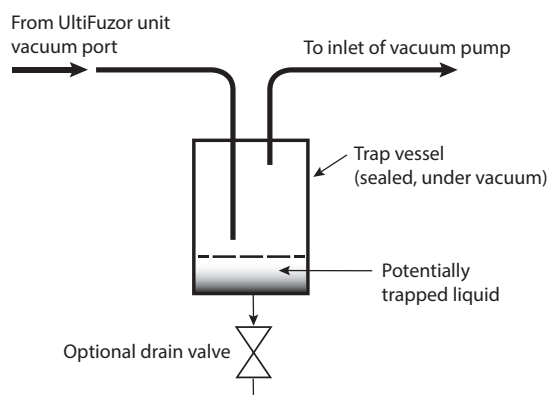

Figure 3: Schematic of a liquid trap set-up
- 3.3 In order to avoid drawing any condensable vapor or liquid ink (in the case of damage to the UltiFuzor module) into the vacuum source, a trap may be placed between the vacuum port of the module and the vacuum pump (figure 3). This device should utilize standard trap construction with a vacuum tight vessel that can collect liquids and be drained periodically, if required. If safety is a concern, this trap may be maintained at a low temperature to condense any solvent that might evaporate from the ink, due to the applied vacuum.